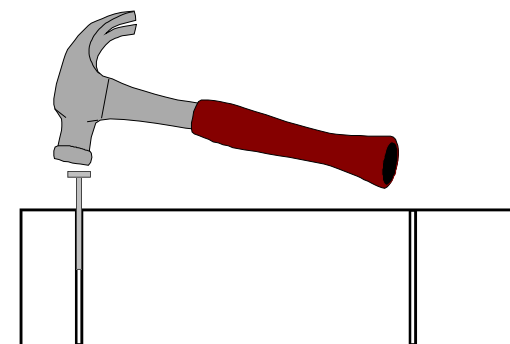

FIGURE 5
2. Sometimes the wood block will split when the axles are inserted into the axle slots. To prevent this from occurring, **before** you build the car, place the block on its side, insert an axle, and use a hammer to *gently* tap the axle into one slot (see Figure 5). Pull the axle back out of the slot by hand (or with a pair of pliers), and repeat the process for the other three slot positions. If the wood block splits, exchange the car kit, or purchase a new block at a hobby store. ***If you have nail-type axles, do not insert the axles into the wheels until after the axles are prepared. The burrs on the axles can permanently damage the wheel hubs.***